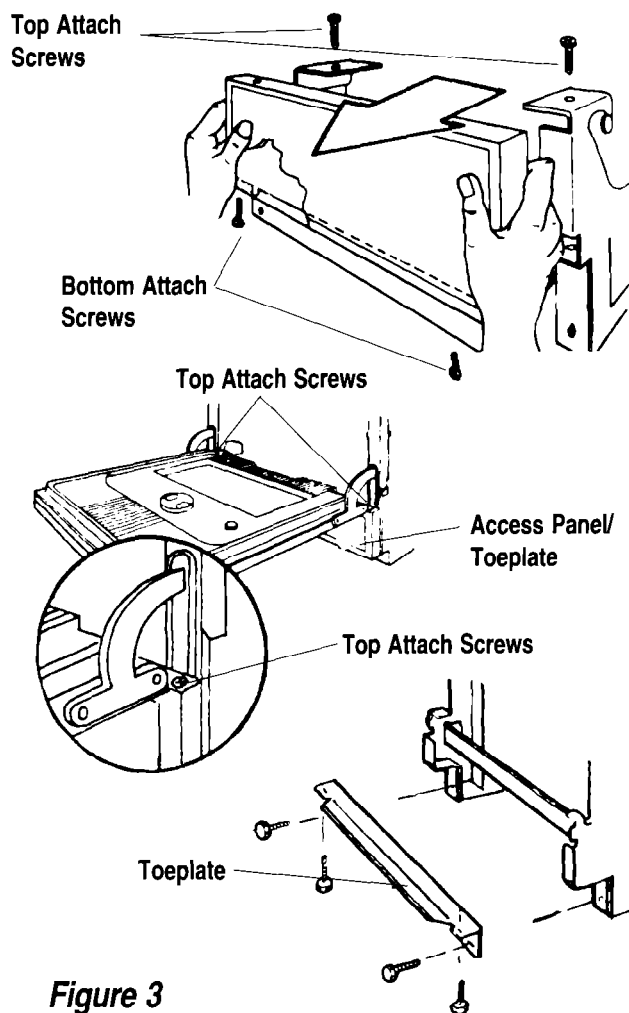

Figure 3
1. Remove the two bottom attach screws in the access panel/toeplate (see Figure 3).
4. Remove four screws to remove the toeplate (see Figure 3).